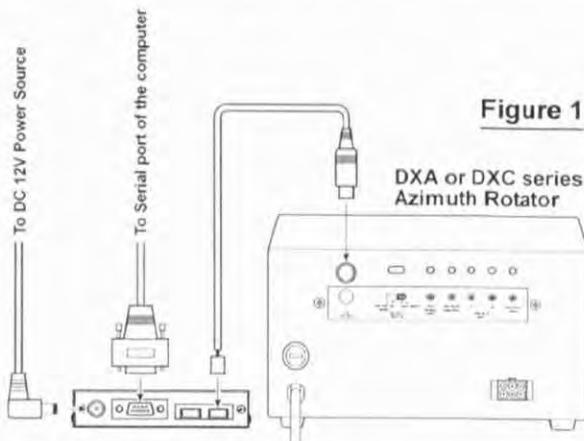

Figure 1
- Connect the supplied Control cable ("5-pin" ↔ "Mini-DIN") between the **EXT CONTROL** connector on the rotator's controller and **AZ** connector on the rear panel of the **GS-232B** (Figure 1).